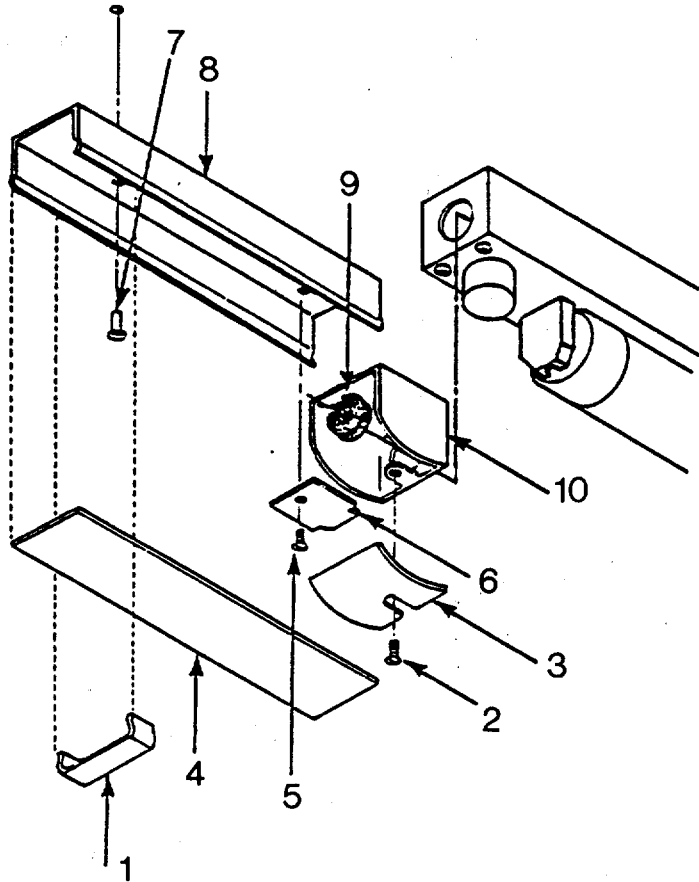

Figure 5-9. Entrance End Fitting
- (3) Replace Entrance End Fitting. (See Figure 5-9.)
- (a) Remove clip (1) from entrance end fitting.
- (b) Remove screw (2) and fitting cover (3).
- (c) Remove cover (4).
- (d) Remove screws (5) and bracket (6).
- (e) Remove rivets (7) and channel (8).
- (f) Remove rubber grommet (9) and end fitting (10).
- (g) Install and secure entrance end fitting channel (8) with rivets (7).
- (h) Install and secure end fitting (10) and brackets (6) with screws (5).
- (i) Install rubber grommet (9).
- (j) Install cover (4) and clip (1).